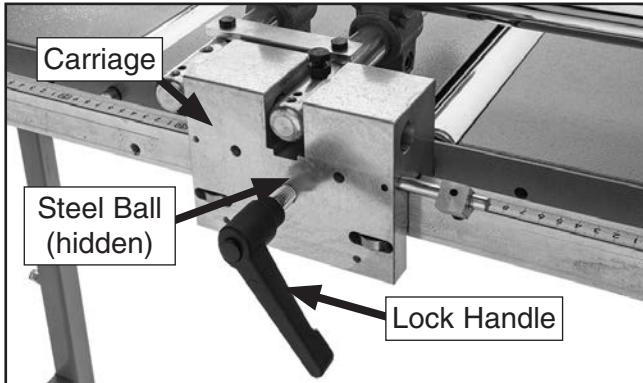

Figure 8. Steel ball secured by lock handle.
7. Insert steel ball into hole at back of carriage (see **Figure 8**) and secure by screwing in lock handle. Use this handle to position and lock carriage at different measurements.